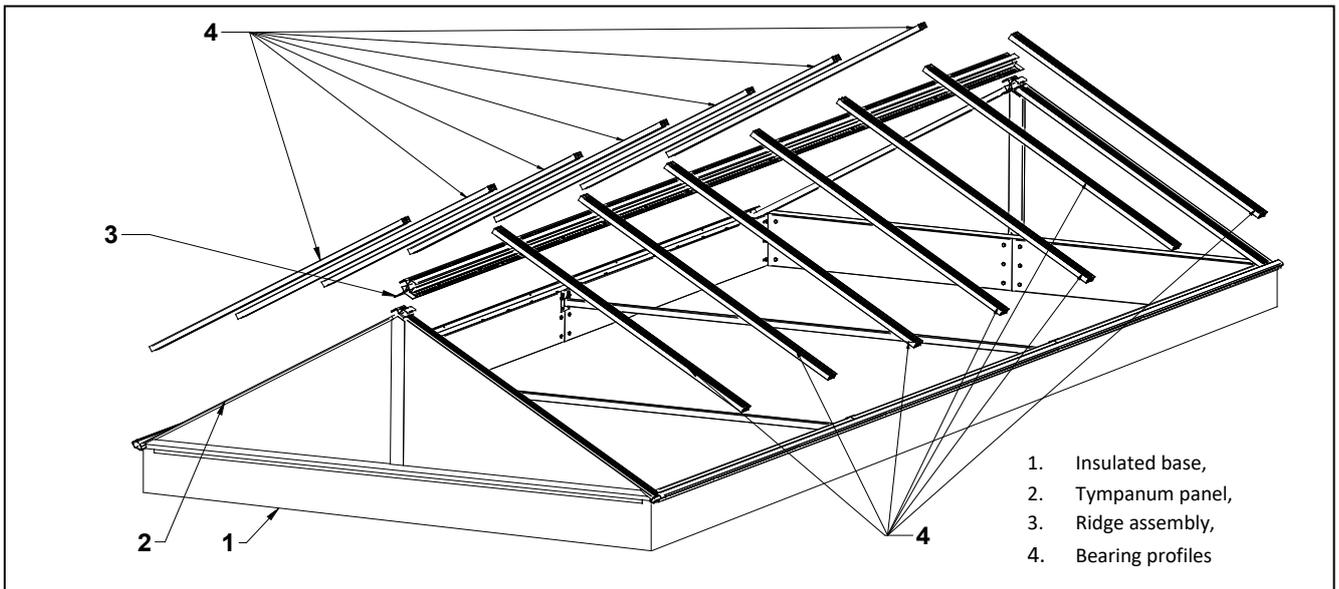

Figure 71 Installation of bearing profiles and assembled set of ridge profiles (step 1)
- Assemble together the bearing profiles and the ridge assembly (two edge profiles connected with an angle bar) according to the documentation accompanying the delivery. The bearing profile axis must coincide with the axis of tension screw holes in the edge profile (not to be confused with drainage holes) according to the supplied drawing according to (Figure 71 Installation of bearing profiles and assembled set of ridge profiles (step 1)).